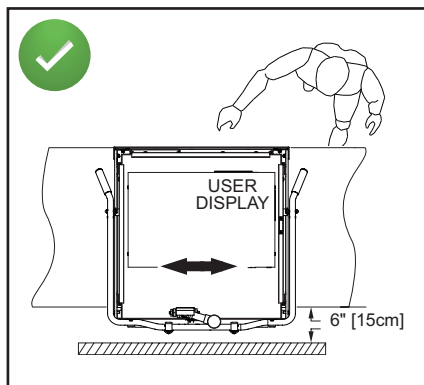
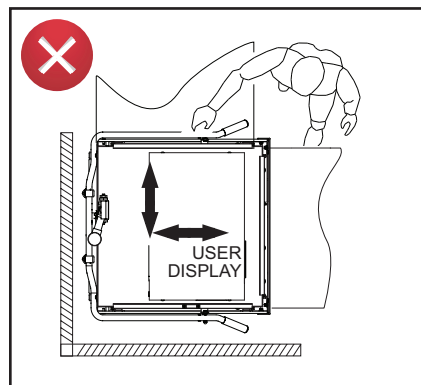
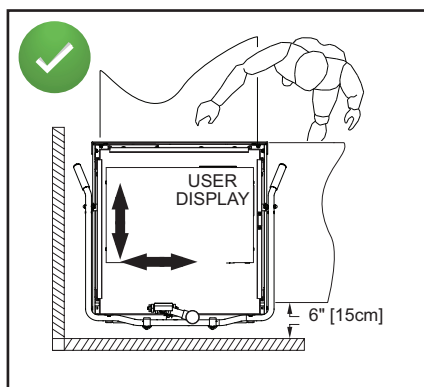

Fig. 1 - Correct Orientation for Straight-through Operation
Fig. 2 - Incorrect Orientation for Corner Operation – Does not allow access to service critical components
Fig. 3 - Correct Orientation for Corner Operation
3. Position the dishwasher as shown below and refer to the next page for instructions on changing the dish rack guides and door operation (see Fig. 1, Fig. 2, and Fig. 3).